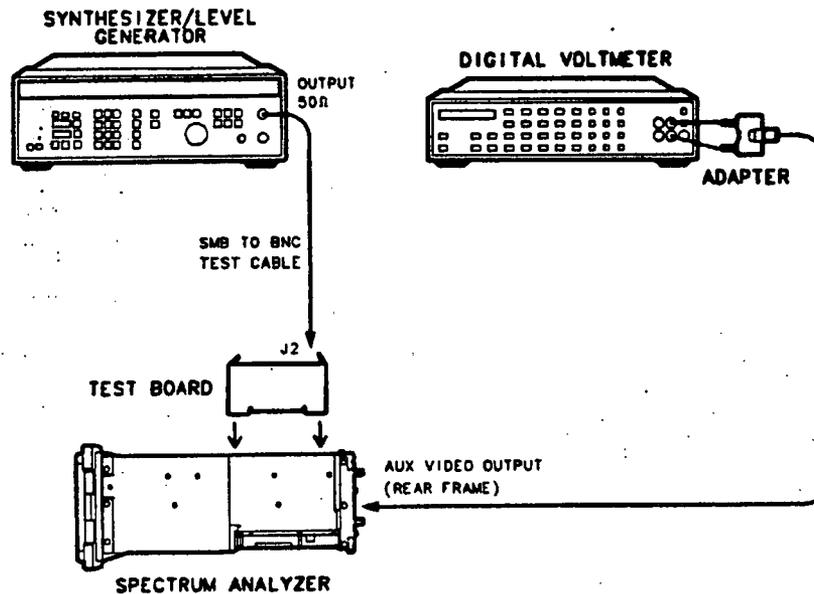

Figure 2-14. Log and Linear Amplifier Adjustment Setup
6. Connect equipment as shown in Figure 2-14. Connect the output of the synthesizer to J2 of the IF test board. Connect the DMM to AUX VIDEO OUT (located on the rear panel).